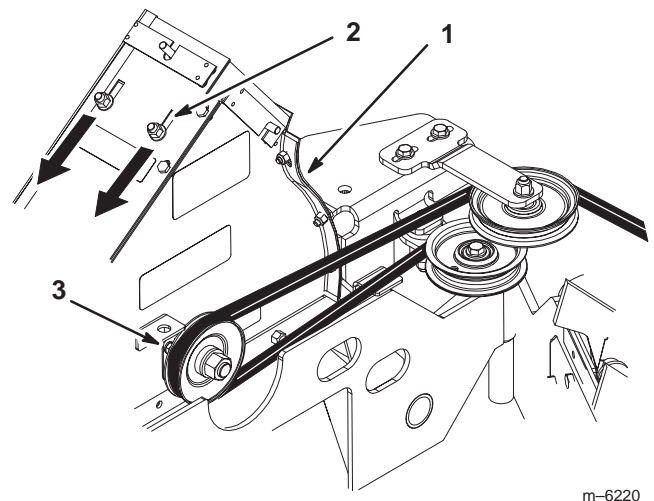

Figure 36
8. Push the top 2 bolts down, toward the front of blower, until the blower liner conforms to the inside of the blower (Fig. 36). This will provide clearance between the impeller and the liner.
9. Rotate the blower pulley to verify that the blower fan does not hit the liner (Fig. 36). Adjust the liner if necessary.
10. Tighten the 2 top bolts in the liner and the blower (Fig. 36).